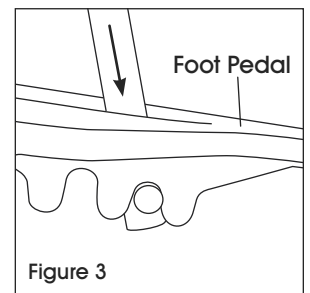

Figure 3
2. Drop T-shaped end through open slit of foot pedal and twist to lock in small notches on underside of foot pedal. (See Figure 3)